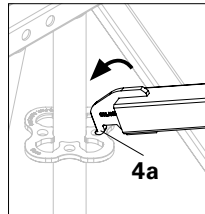

Fig. A1.04a
- Install first side: attach hook without slider (4a) in the rosette and push down. (Fig. A1.04a + b)